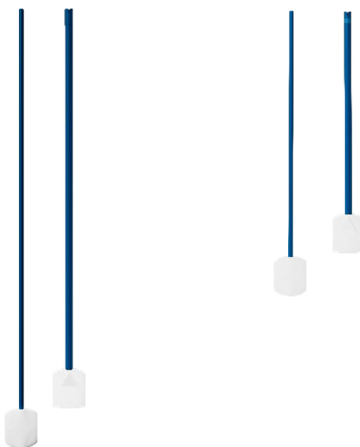

Figure 3. Insertion Tool - Advancer and Sheath (male-left; female-right)
- The Insertion Tool (**Figure 3**) is used to insert the Sensor in the patient's bladder.